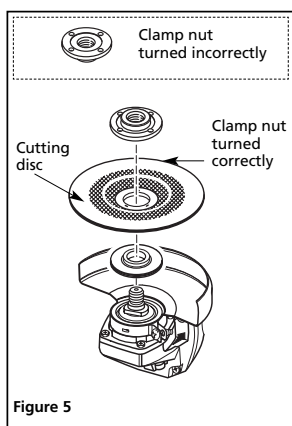

Figure 5
- NOTE:** Any discs with a center thickness of less than 0.16" [4mm] should have the clamp nut oriented like that shown in Figure 5
- If the working disc is a 4 1/2" [115mm] cutting wheel, these typically have a thickness of .12" [3mm] or less and thusly should be secured with the raised portion of the clamp nut facing outward toward the user. (See Figure 5)